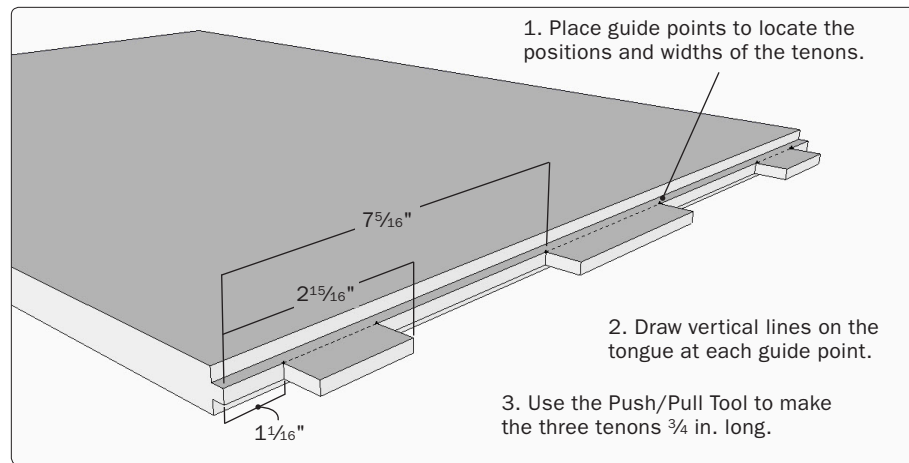

Figure 39. Create the three longer tenons on the top.
Step 35 Use the Tape Measure Tool to place guide points at six positions along the tongue to define the longer tenon locations. (To learn how to place guide points, see page 17.) To place the guide points precisely, type the exact dimension you want and press the Enter key. Draw vertical lines at the guide points to create the sides of the long tenons. Use the Push/Pull Tool to make the tenons the proper length (Figure 39).